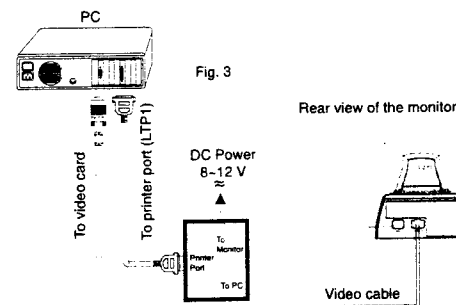

Fig. 3
- Step 2:** Connecting printer cable and video cable of monitor as shown in Fig.3.